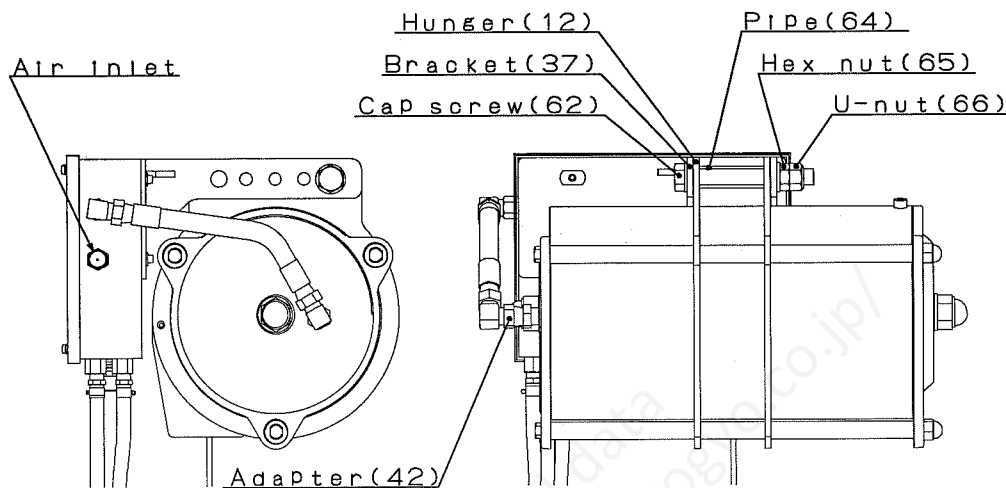

Fig.13
1. Insert Bracket(37) into the outside of Hanger(12) and fit mounting holes each other as Fig.13.
2. Set Pipe(64) between Hanger and insert Hex. bolt(62) into Pipe. Tighten Hex. Bolt firmly with Hex. nut(65) and U nut(66).
3. Connect Adaptor(42) with Air connection on Air balancer.
4. Install BC2 as Fig.13.